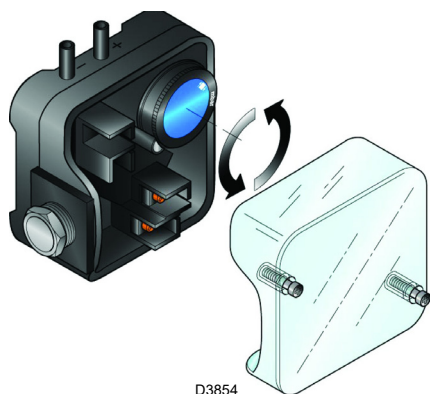

Fig. 35
- Adjust the air pressure switch (Fig. 35 on page 30) to the start of the scale.
Adjust the air pressure switch (Fig. 35) after having performed all other burner adjustments with the air pressure switch set to the min. of the scale.